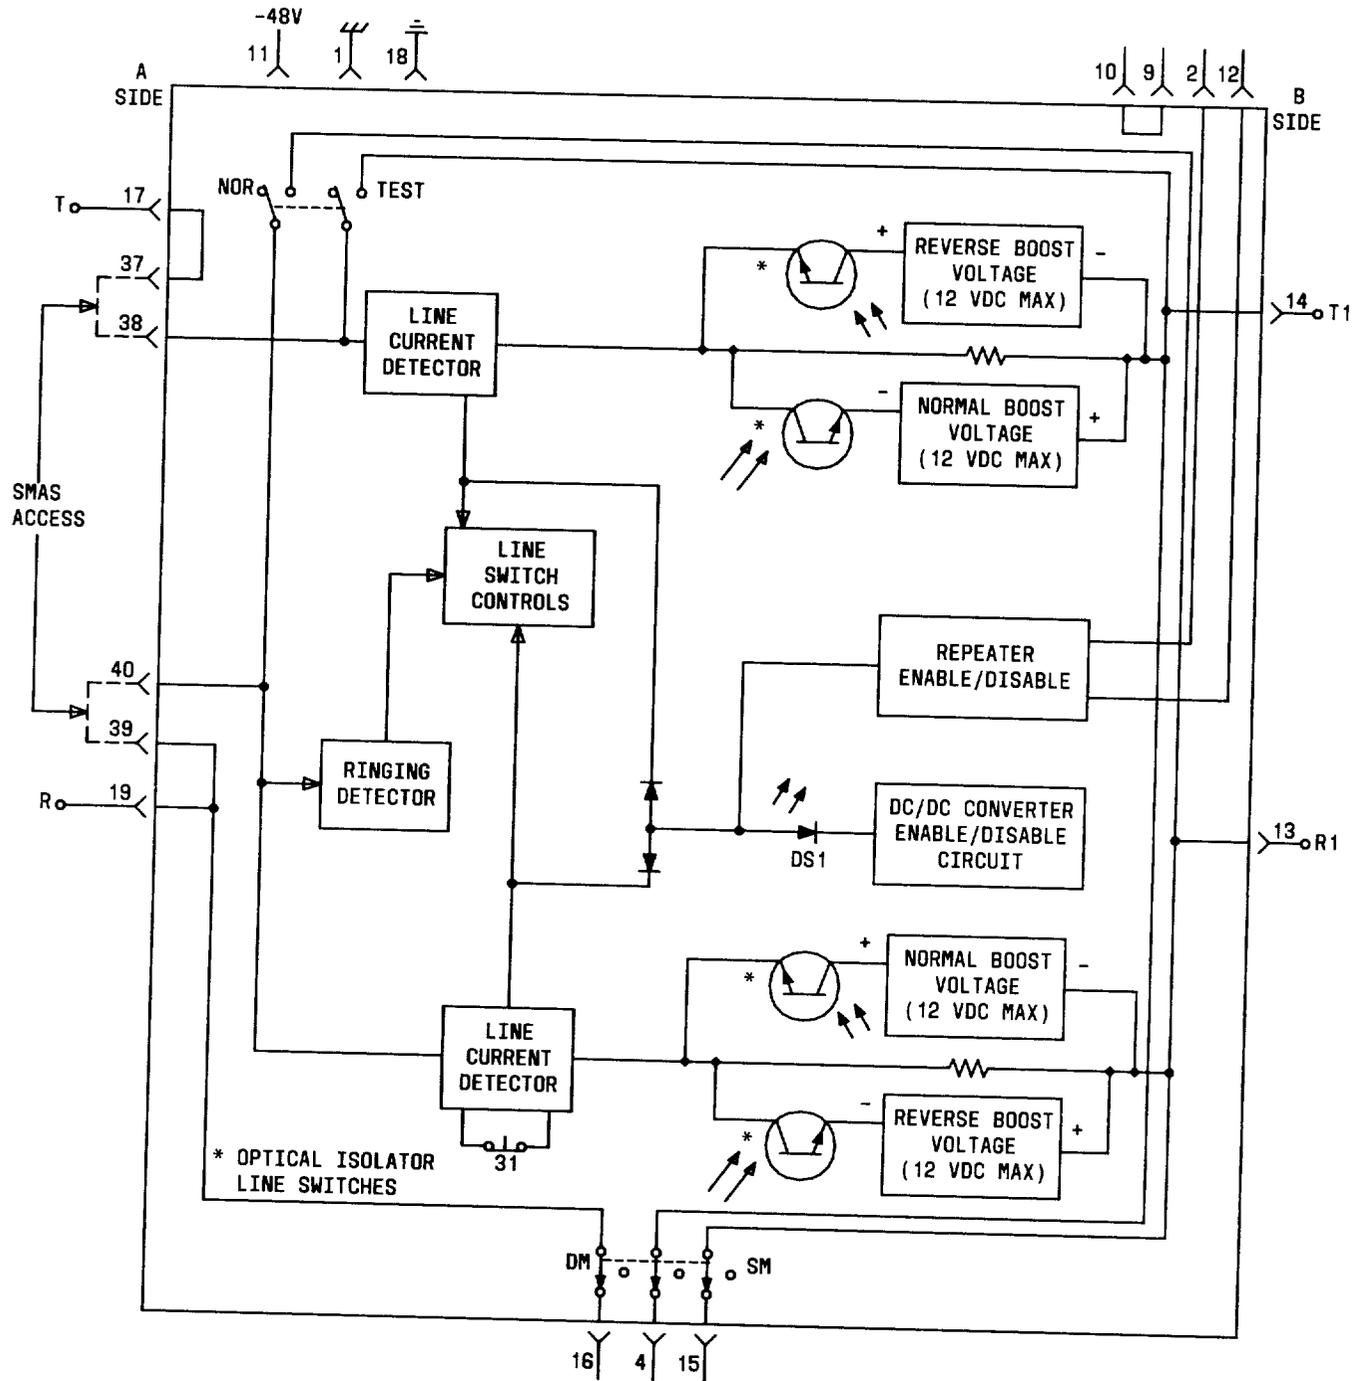

Fig. 11—Block Diagram of the LSE II
4.06 The LSE II, L1, L2 and L3 consist of six principal parts. These parts, shown in Fig. 11, are as follows: